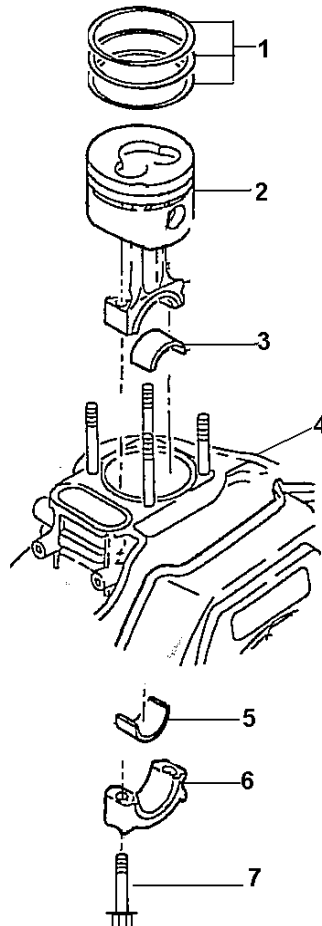

Figure 1. Connecting Rod Removal.
2. Rotate the crankshaft so the connecting rod bolts (7) are accessible and remove them. See Figure 1.